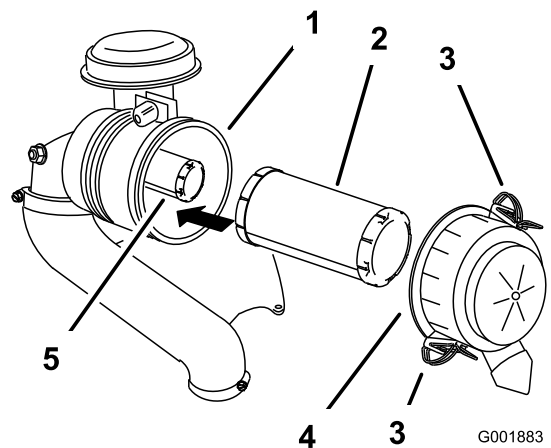

Figure 45
5. Gently slide the primary filter out of the air-cleaner body (Figure 45).
3. Release the latches on the air cleaner and pull the air-cleaner cover off the air-cleaner body (Figure 45).
2. If you are replacing the inner filter, carefully slide it into the filter body (Figure 45).
3. Carefully slide the primary filter over the safety filter (Figure 45).
4. Install the air-cleaner cover and secure the latches (Figure 45).